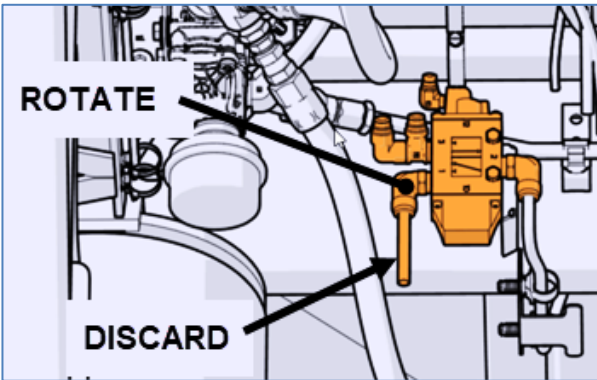

Figure 8
9) Discard the exhaust tube (Figure 8).